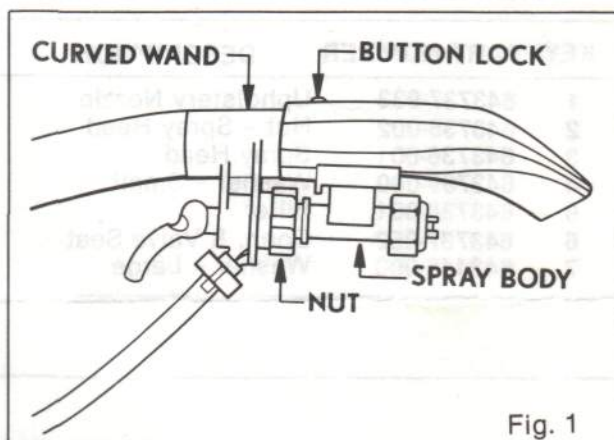

Fig. 1
3. Slide spray body on underside of nozzle toward the threaded portion of the curved wand and tighten nut. (Figure 1).
- A. Remove small nut from end of spray body. Remove brass tip and washer from recess in spray body. With tweezers or pin, remove filter inside. (Figure 1) Rinse filter with clean water.